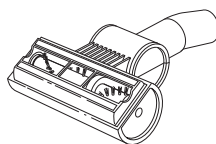

Fig. 27
- 3 Turn the turbo brush over to inspect the rotating brush and cut away any build-up of hair or string wrapped around the rotating bristle brush with scissors. (Fig. 27)